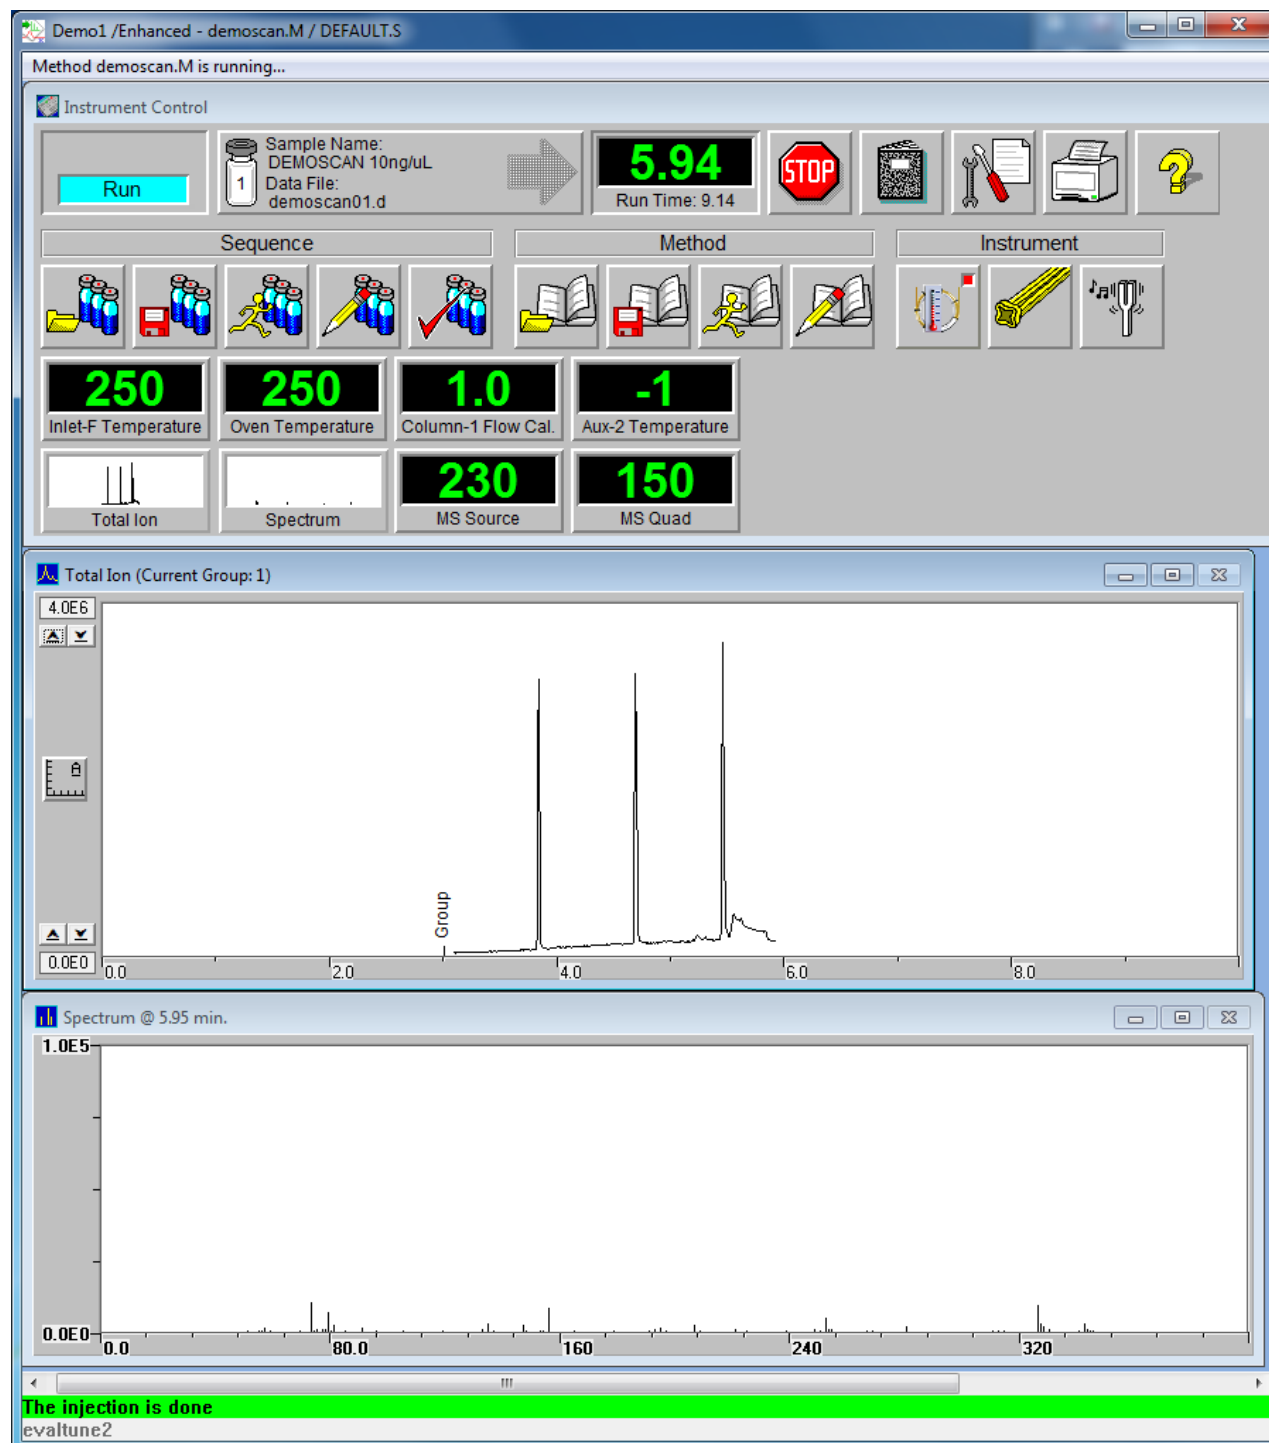

Figure 30 Instrument control window during single sample run
- 5 When the instrument is in a ready state as shown by a green **Idle** indicator in the upper left hand corner, select **OK** and **Run Method** to close the dialog box and start the run. The ready state indicator changes to Run. See Figure 30 on page 60.